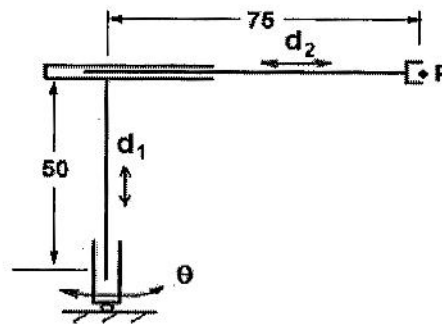

Fig. Q4
4. A cylindrical robotic manipulator is shown in Fig. Q4. With respect to the base coordinate system the coordinates of P is $(25, 15, 10, 1)^T$. If the robot is subjected to the transformation of $\theta = -30^\circ$, $d_1 = 50$ unit and $d_2 = 60$ unit, determine the new coordinates of P.